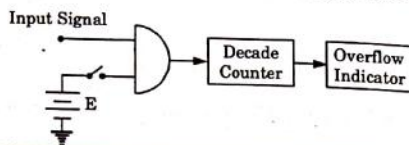

Fig. 4.14.1. Block diagram of the totalising mode of an digital counter.
1. In the totalising mode, as shown in Fig. 4.14.1, the input pulses are counted (totalised) by the decade counter as long as the switch is closed.